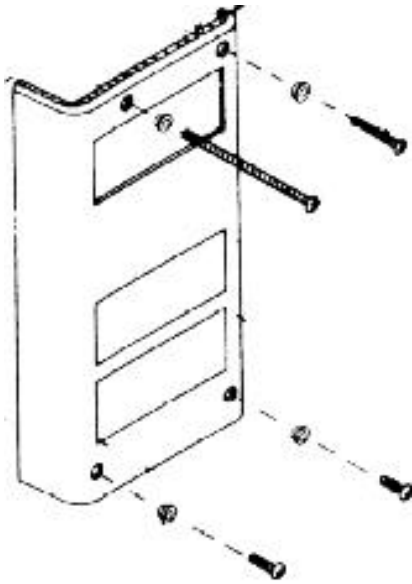

Figure 1
- a) Remove 4 screws from rear cover of radio. (Fig. 1)